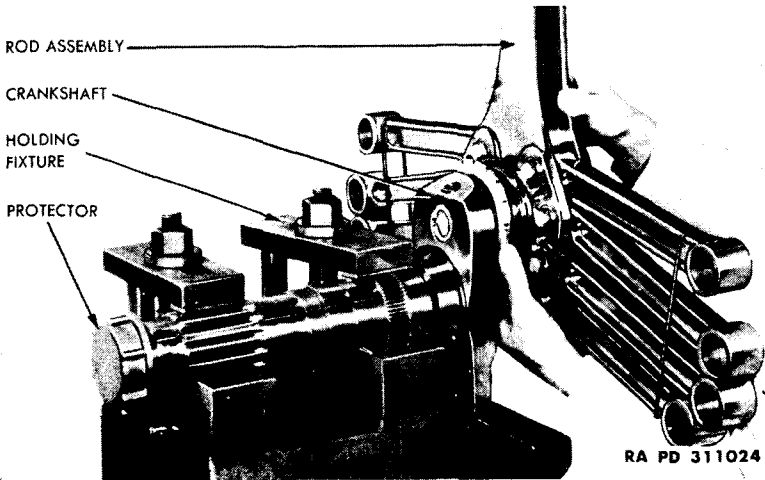

Figure 40 — Removing Rod Assembly, Using Fixture 5A2296 and Protector 5A2342
(1) **MOUNT IN FIXTURE.** Install crankshaft in assembly and disassembly fixture (5A2296) with counterweights in downward position. Tighten two clamps on fixture to hold crankshaft firmly in fixture (fig. 40).
(6) **DISASSEMBLE MASTER AND ARTICULATED RODS.** Remove master rod end seal spacer. Check rear end of crankpin to insure that no nicks or burrs are present to scratch or score master rod bearing upon removal of master rod and articulated rod assembly. Remove any nicks or burrs by stoning and polishing. Grasp two groups of articulated rods, one on each side of the master rod and remove master rod and articulated rod assembly from crankpin (fig. 40). Remove end seal disk and spring (fig. 40).
(a) *Install Master Rod Assembly.* Wash crankpin with dry-cleaning solvent, dry in air blast, and lubricate freely with clean engine oil. Lubricate inside diameter of master rod bearing with clean engine oil. Hold master rod in a vertical position and group four articulated rods on either side of master rod together, holding each group of rods together with a heavy rubber band (fig. 38). Install master and articulated rod and end seal assembly on crankpin (fig. 40)